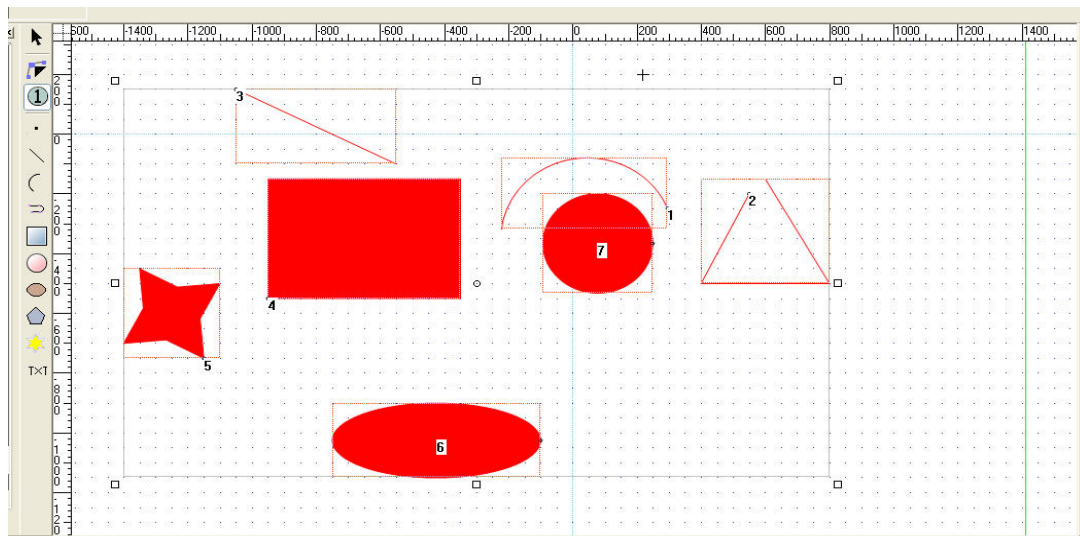

Fig. 4-40 Displaying the machining order of the objects
- Select [View order] option under [View] or click the icon  on toolbar to display the machining order of the objects, see Fig. 4-40.